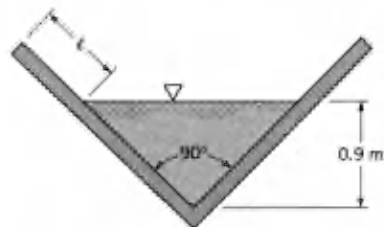

FIGURE P10.8R
10.8R (Manning equation) The triangular flume shown in Fig. P10.8R is built to carry its design flowrate,  $Q_0$ , at a depth of 0.90 m as is indicated. If the flume is to be able to carry up to twice its design flowrate,  $Q = 2Q_0$ , determine the freeboard,  $l$ , needed.